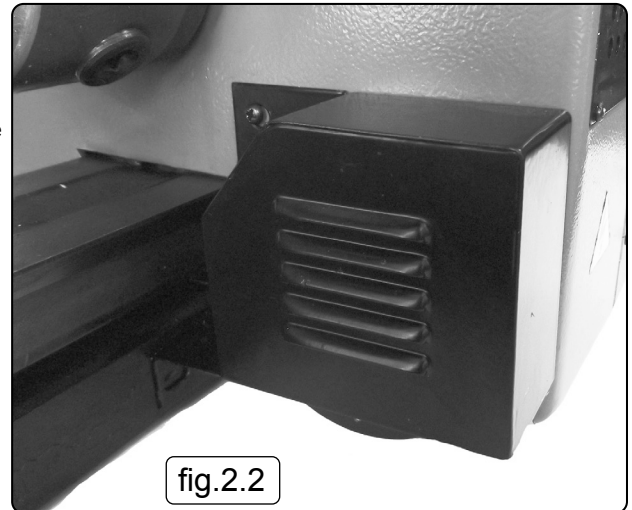

fig.2.2
- 5.2. Remove the drip tray and motor cover from the lathe and fit the small motor cover (fig 2.2) supplied with Model No.SM2503B.